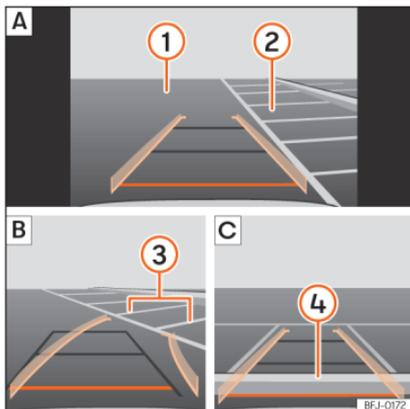

Fig. 204 Display on the Infotainment system screen.: parking with reverse assist.
Key to the **Fig. 204**:
- Place the vehicle in front of the parking space **»» Fig. 204 (two) A**.